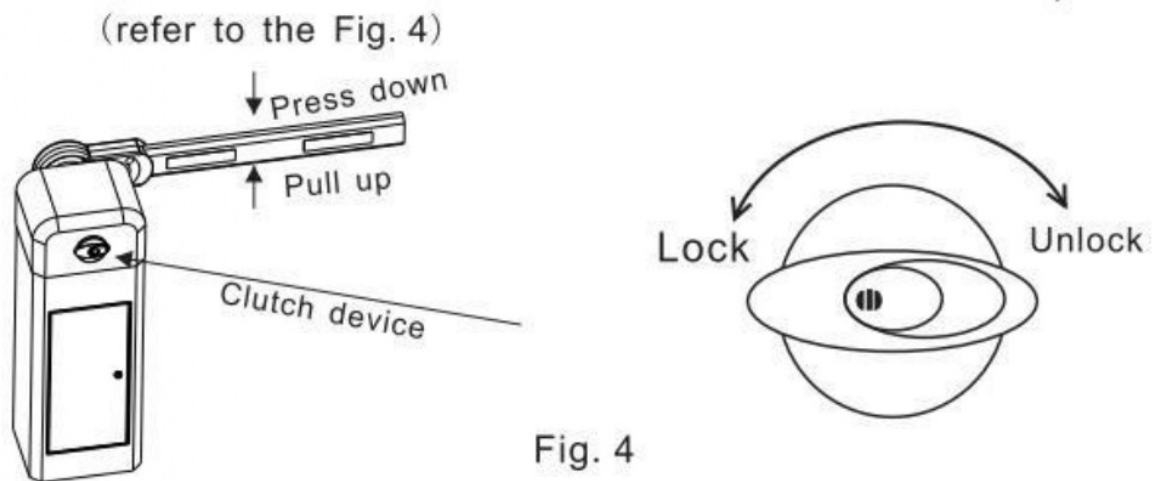

Fig. 4
7)The method to lock up unlock device.The clutch can not be unlocked.Insert the clutch key and rotate it.If the clutch device could not been locked up or unlocked easily,please pull up or pull down the boom by hand lightly(Refer to Fig.4)